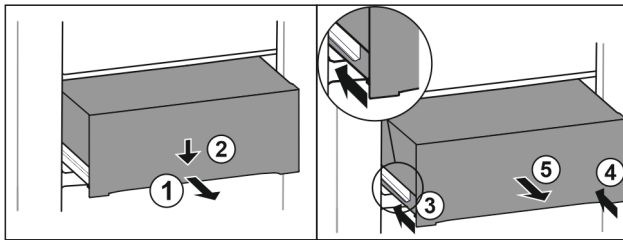

Fig. 101
- Pull out drawer half-way. Fig. 101 (1)
- Push the drawer down at the front. Fig. 101 (2)
- Push the left rail in by about 2 cm. Fig. 101 (3)
- Push the right rail in by about 2 cm. Fig. 101 (4)
- Remove drawer to the front. Fig. 101 (5)